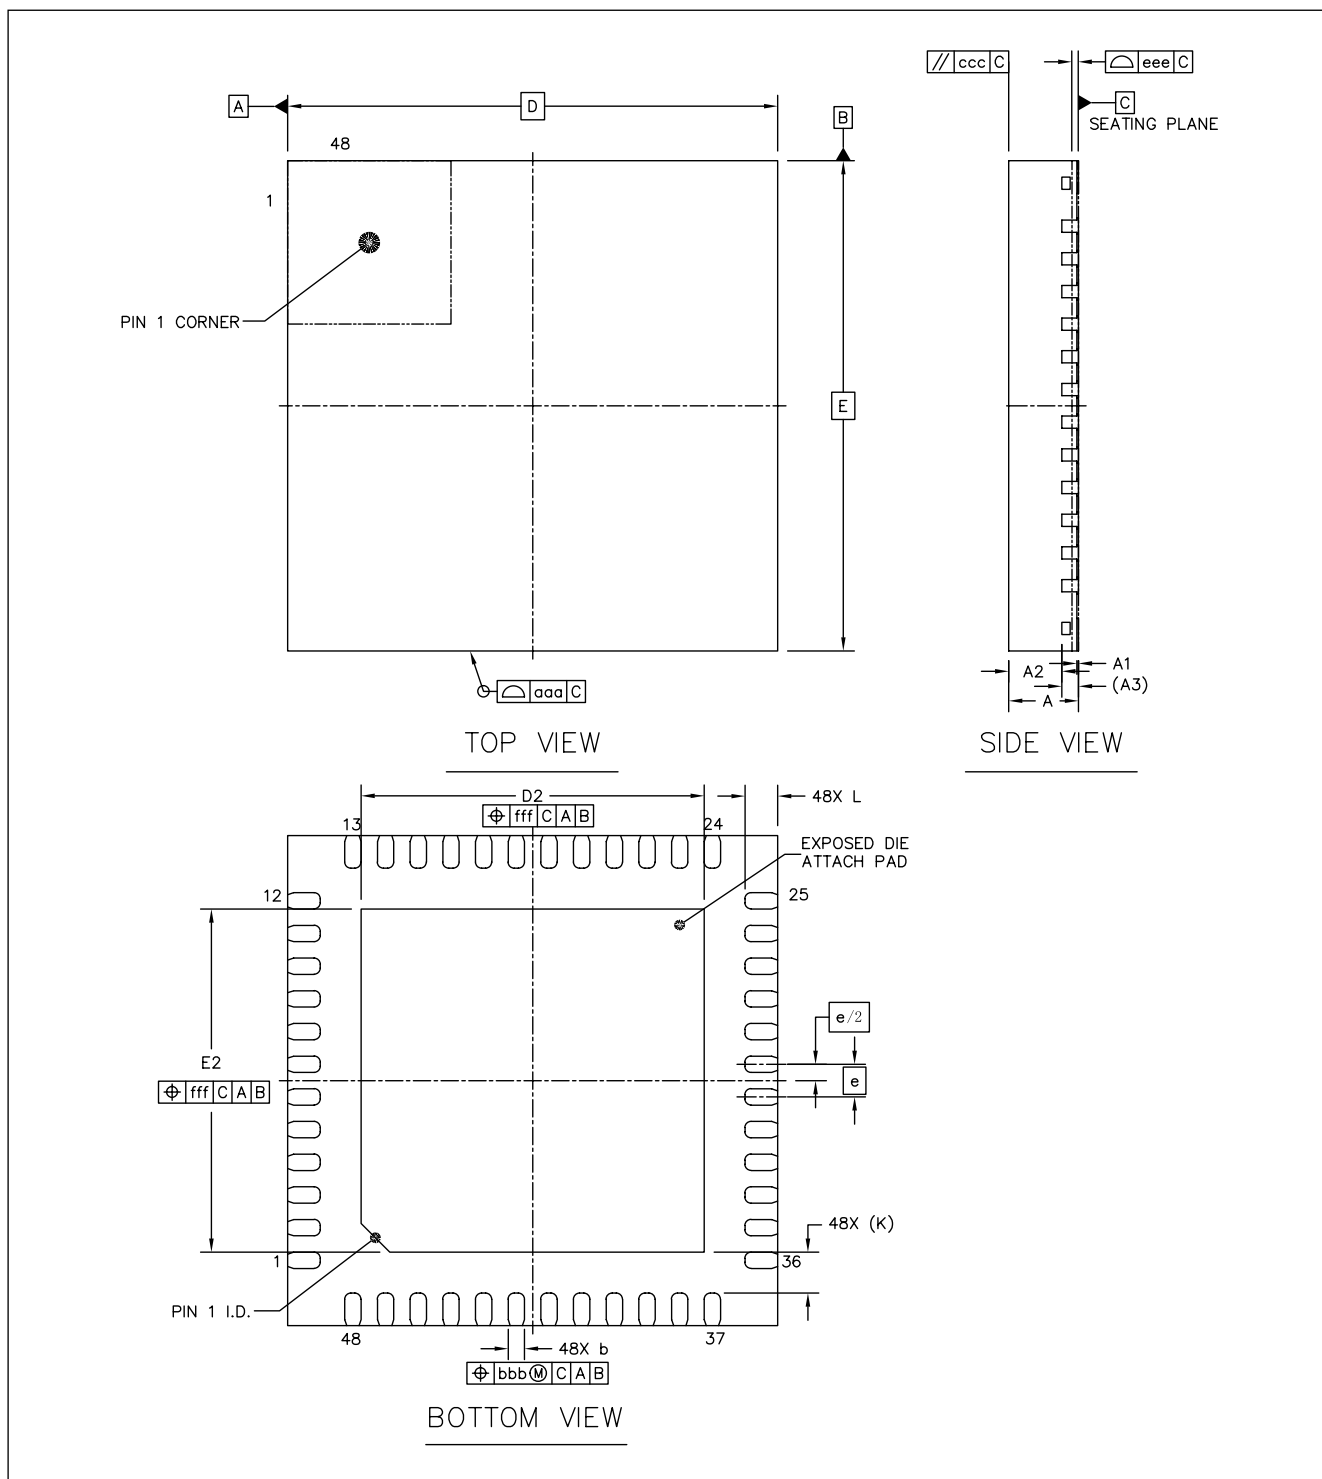

Figure 19 PG-QFN-48 Mechanical Drawing
**Table 44** provides the mechanical dimensions for the PG-QFN-48 package. **Figure 19** shows the top, side and bottom dimension drawings of the PG-QFN-48 package.